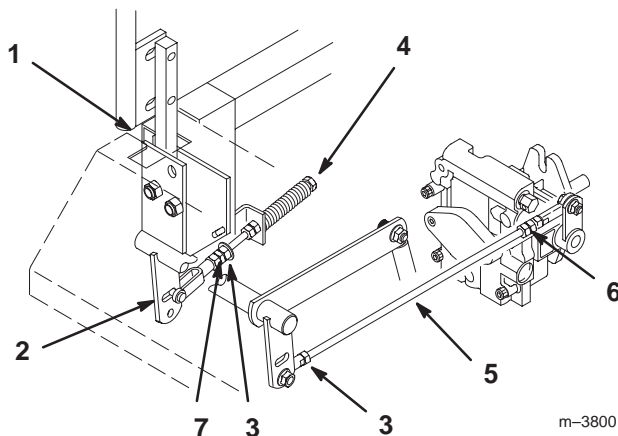

Figure 47
2. Begin with either the left or right motion control lever. Move the lever to the neutral (but not locked) position and pull the lever back until the clevis pin (on the arm below the pivot shaft) contacts the end of the slot (just beginning to put pressure on the spring) (Fig. 47).
3. Check where the lever is relative to the notch in the console. It should be centered allowing the lever to pivot outward to the neutral lock position (Fig. 47).
4. Loosen the locknut at the ball joint on the pump control rod (Fig. 47).
6. Adjust the pump rod length by rotating the double nuts on the rod, in the appropriate direction, until the wheel is still or slightly creeps in reverse (Fig. 47).